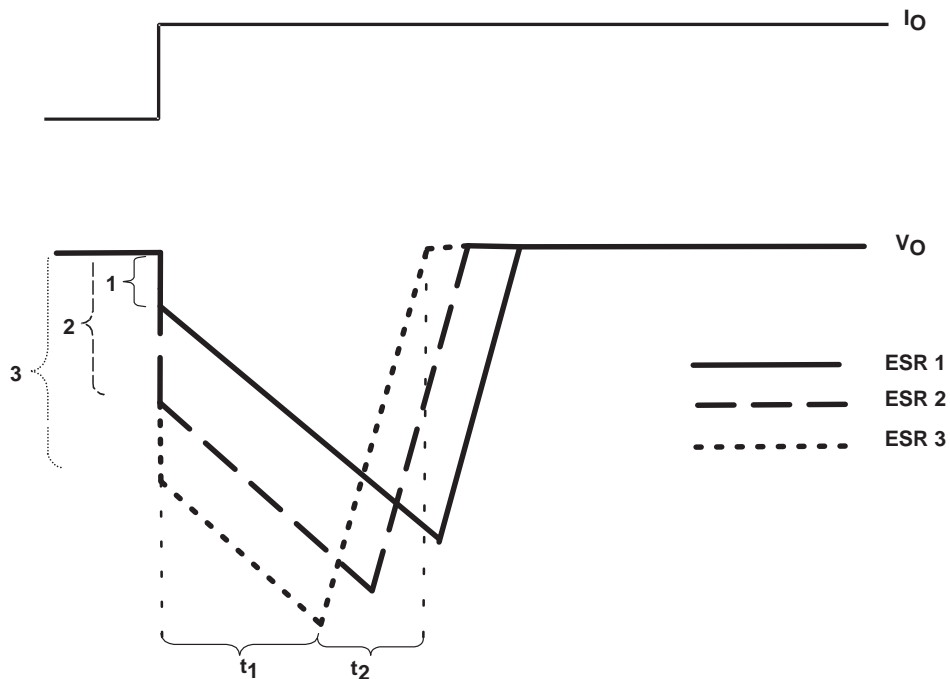

Figure 23. Correlation of Different ESRs and Their Influence to Regulation of  $V_O$  at Load Step From Low-to-High Output Current
- The LDO is not able to supply the sudden current need due to its response time ( $t_1$  in Figure 24). Therefore, capacitor  $C_O$  provides the current for the new load condition (dashed arrow).  $C_O$  now acts like a battery with an internal resistance, ESR. Depending on the current demand at the output, a voltage drop will occur at  $R_{ESR}$ . This voltage is shown as  $V_{ESR}$  in Figure 23.
Figure 23 also shows the impact of different ESRs on the output voltage. The left brackets show different levels of ESRs, where number 1 displays the lowest and number 3 displays the highest ESR.